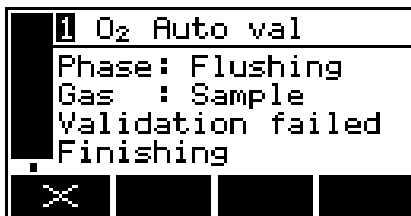

Figure 70 – The auto val/cal failed screen
- A 'failed' message will be shown on the calibration screen, if displayed, for example: see Figure 70.